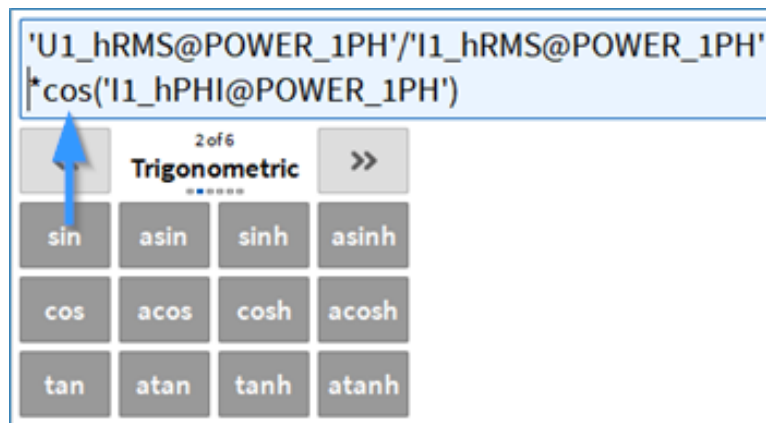

Fig. 7.76: Trigonometric operators in combination with array channels
- Trigonometric operators (see Fig. 7.76)